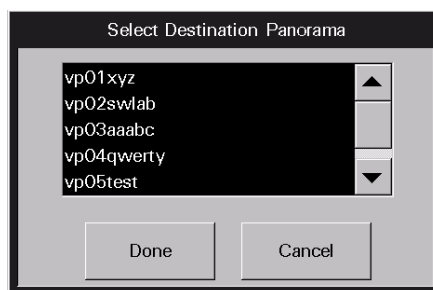

FIGURE 5-20 Select Destination Panorama List Box
5. Select the **Central To Central Without Device** button. The **Select Destination Panorama** list box (shown in FIGURE 5-20) is displayed.
- The **Transfer** button displays the Select Destination Panorama list box (shown in FIGURE 5-20) displays. Go to step 6 on page 5-32 and continue the transfer process. When a Destination Panorama is selected, the patient information is removed from the Failed Transfer List.